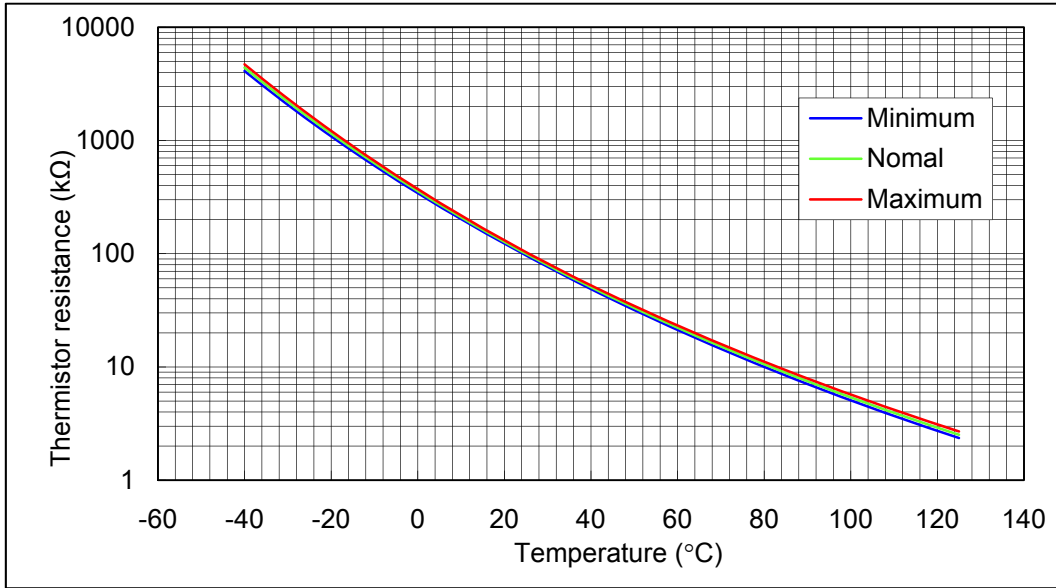
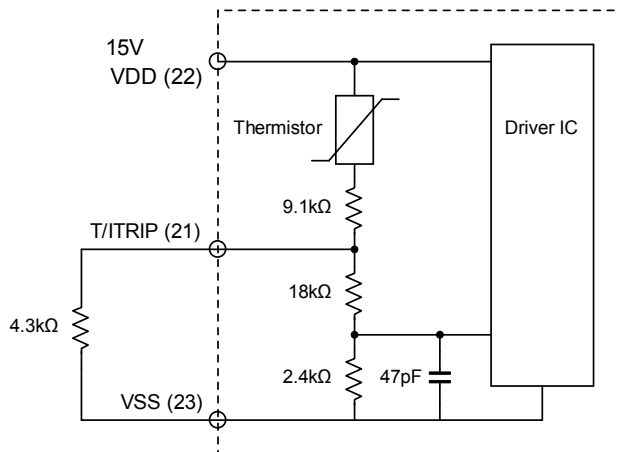

Fig. 10 Variation of thermistor resistance with temperature
Fig. 12 Sample application circuit for temperature monitoring
- Inside the IPM, a thermistor used as the temperature monitor is connected between V_{DD} terminal and T/ITRIP terminal, therefore, an external pull down resistor connected between the T/ITRIP terminal and V_{SS} terminal should be used. The temperature monitor example application is as follows, please refer the Fig.10, Fig.11, and Fig.12 below.